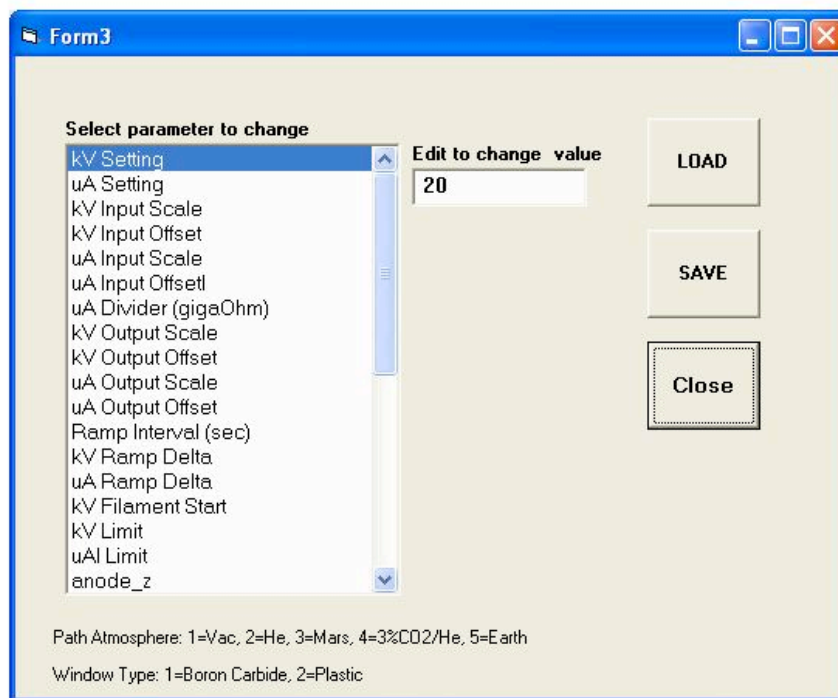

Figure 8. View of configuration setting "load parameters panel"
- “load params panel” (Figure 8): Opening this window allows the user to change instrument control parameters (such as the ramp interval) and acquisition conditions (such as the atmosphere type).